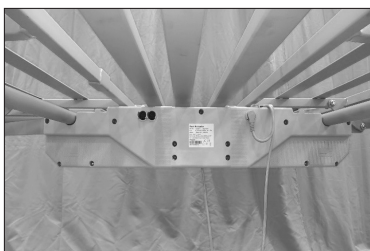

Fig.11
2. Insert the bar tabs inside the motor housing until they both snap in. (Fig.11)